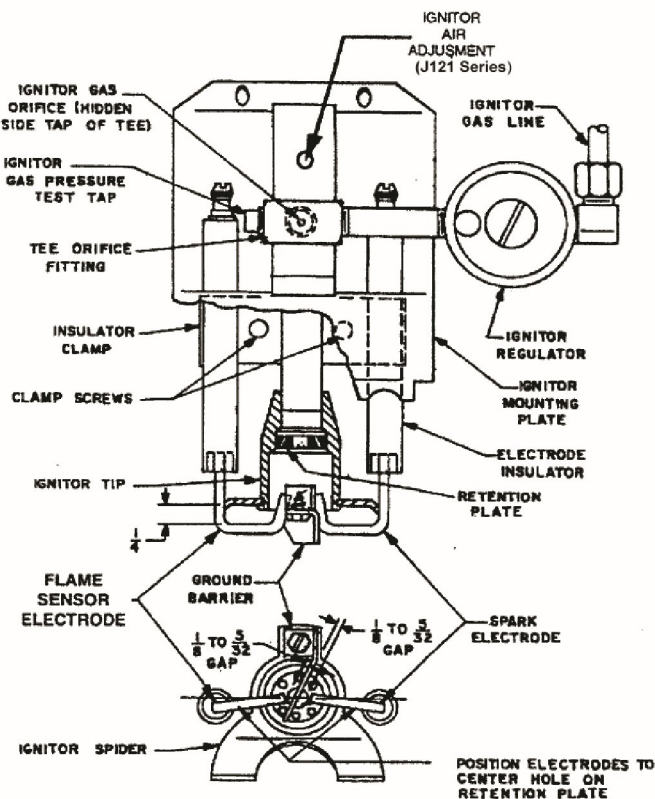

Figure 5 Ignitor and Flame Sensor Assembly
- When the ignitor gas pressure is in the proper range (see Table 3) and the electrodes are adjusted to the dimensions shown in Figure 5, any ignition problems are usually caused by lint, dust, corrosion, cracked electrode insulators, foreign matter in the blast tube or deterioration of ignitor ports in Retention Plate.
- Ignitor trouble will be evidenced by failure of main burner ignition. It may cause frequent Electronic Control lockout. Check for dirt in the ignitor air and mixture passageways and check for obstructions in the ignitor ports. Also check electrode adjustments (see Figure 5). Replace any severely burned parts.
- Clean the Ignitor Gas Orifice in Tee Orifice Fitting (see Figure 5) and check that the orifice size is correct per Table 3.
- Check that the electrode ends are positioned and that the gap between the end of each electrode and the ground barrier is spaced per Figure 5.
- The Air adjustment screw is located under a plug button in the Ignitor Block about 1/2" behind the Ignitor Orifice (refer to Figure 5). A 5/64 (.078) inch hexagon wrench is required for adjustment. Pry up the plug button to expose air adjustment screw. Adjust the screw up or down to find the best Flame Signal or until repeatable and stable light-offs are achieved. Ignitor airflow is decreased as the screw is turned clockwise, and increased as it is turned counter-clockwise. Generally 3 to 5 turns up from full closed (screw bottomed out) works best.
- c. Check for spark between Spark Electrode and ground barrier. See Figure 5. If ignitor tip is not visible with burner mounted, but spark can be heard, continue with Step G4. If spark cannot be heard, refer to Section VIII IGNITOR AND REGULATOR ASSEMBLY for spark test.